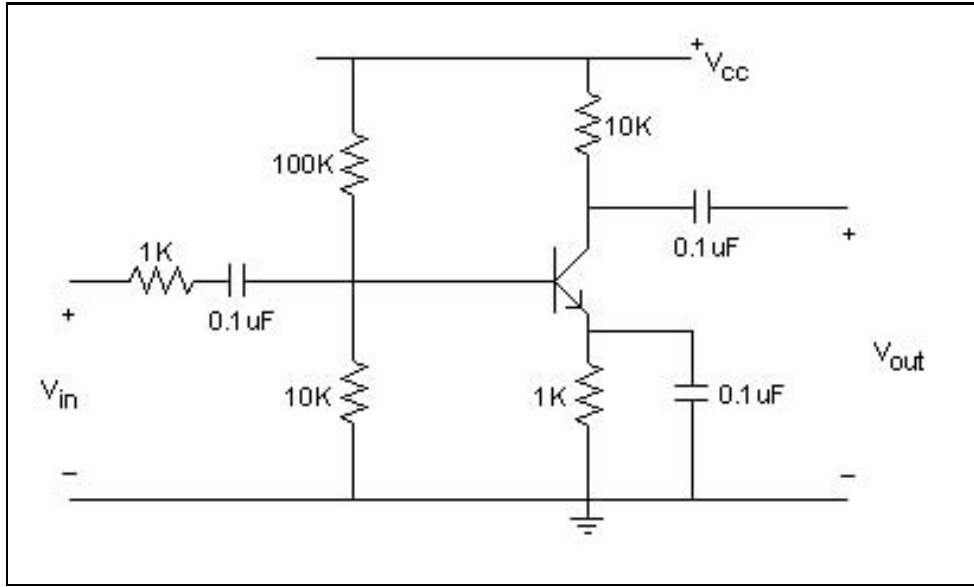

Figure 4.15: Circuit for Measuring High Frequency Intrinsic Capacitors
Use the circuit in Fig. 4.15 to perform this experiment. Set the supply voltage $V_{cc} = 15V$
3. The following questions refer to the circuit in Fig.4.15. For this question only, assume that $C_{\pi} = C_{\mu} = 1.0pf$ (picofarads).